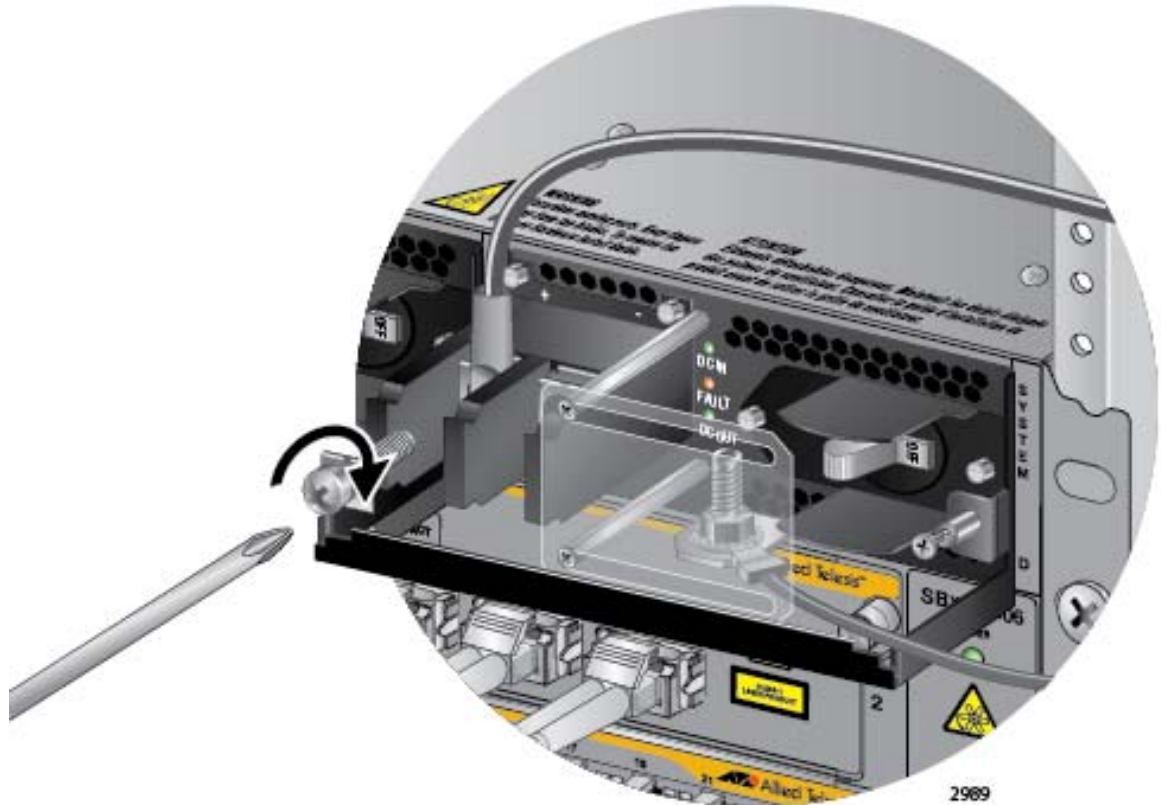

Figure 146. Connecting the Positive (+) Power Wire with a Straight Terminal
6. With a #3 Phillips-head screwdriver, connect the positive (+) power lead wire to the positive terminal on the power supply, with one of the terminal screws removed in the previous step. The positive terminal is on the left. You may attach the terminals with the wires either above or below the terminal block. Figure 146 on page 223 shows the positive wire above the terminal block.